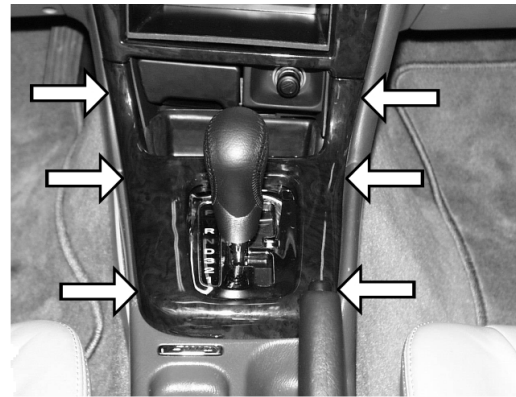

Figure 1
1. Remove the gearshift cover by pulling up in areas indicated by arrows in Figure 1.